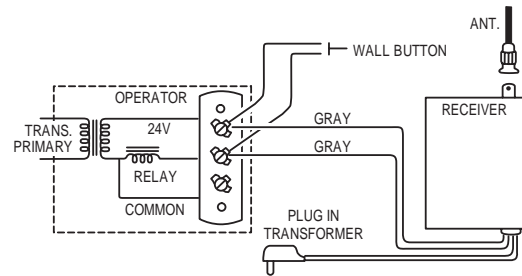

Figure 2 (1099-20)
**IF YOU HAVE THE MODEL 1099-20:** Plug the transformer into a convenient 115 volt outlet. Connect the remaining gray wires as specified by the manufacturer of your operator. If such instructions do not exist, wire the two gray wires in parallel with the pushbutton terminals. If the operator has a three wire terminal, the proper terminals will usually be marked "1" and "2" or "24V" and "RELAY" (see figure 2).